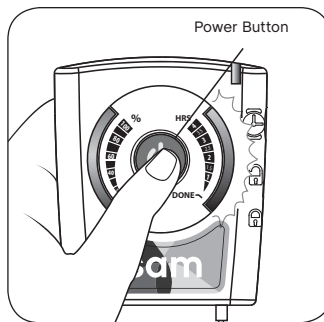

figure 11B: Press Power Button
- B. Press and hold the *Power Button* on the sam Power Controller for at least 1 second to turn the device 'ON' (Figure 11B).
Move the *Lock Switch* up to the 'unlocked position' (if locked) then press and hold the *Power Button* on the sam Power Controller **for at least 1 second** to turn the device 'OFF' (See Figure 11B for device diagram).